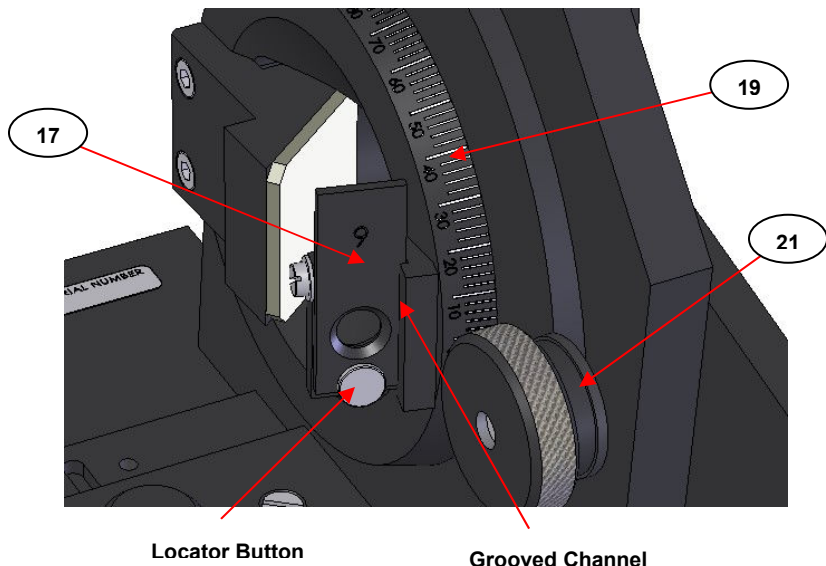

Fig 12. Detail of Aperture Stop Mount Holder on Butterfly Arm
Fig 12. shows a close-up detail of the aperture stop holder mount (17) as fitted to the butterfly arm (1). The 6mm diameter size aperture stop is shown in position in the holder. The circular cut out of the aperture stop is positioned over the locator button of the holder mount (17) and is retained to be held upright in the grooved channel to the side.